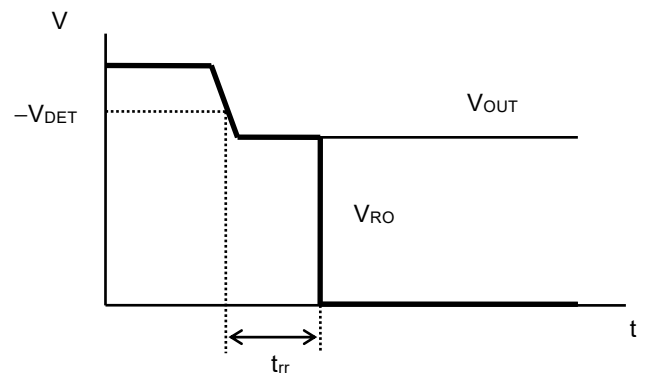

Figure 5 Reset Reaction Time
- *4. The time from when V_{OUT} falls below $-V_{DET}$ to when the RO pin output inverts (Refer to **Figure 5**). The time period from when V_{OUT} changes to $V_{OUT(S)} \rightarrow -V_{DET}$ to when V_{RO} reaches $V_{OUT} / 2$.